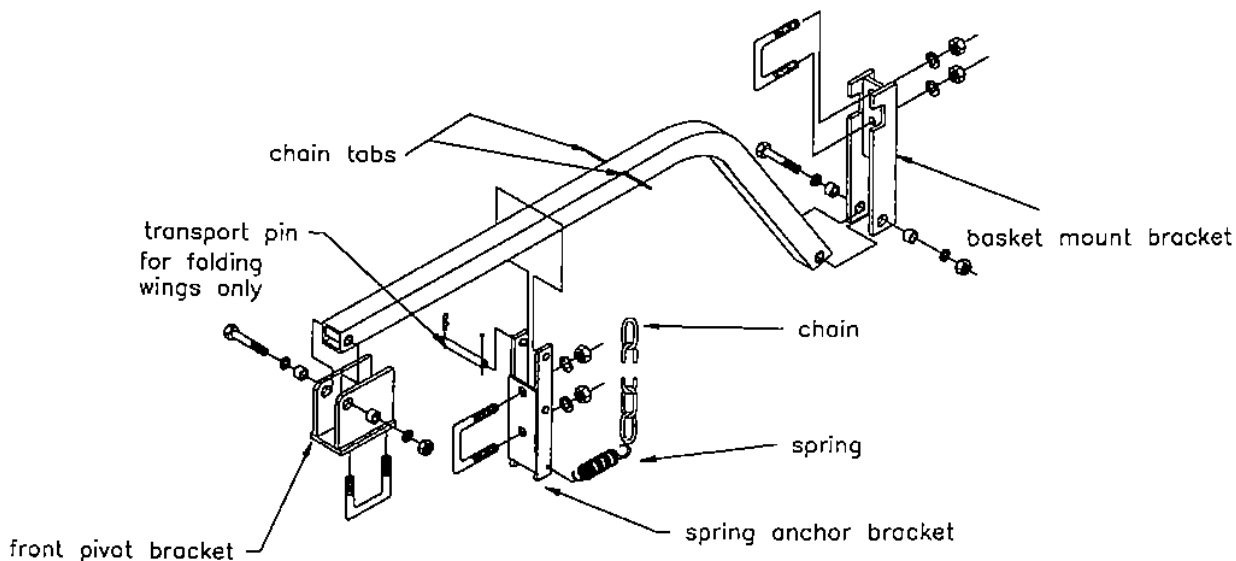

FIGURE 4 - BASKET ARM ASSEMBLY
2) On the back side of the rear frame member mount a spring anchor bracket (fig.4) at each arm location using a U-bolt with lockwashers and hex nuts. Be sure the small holes in the bracket are to the bottom.